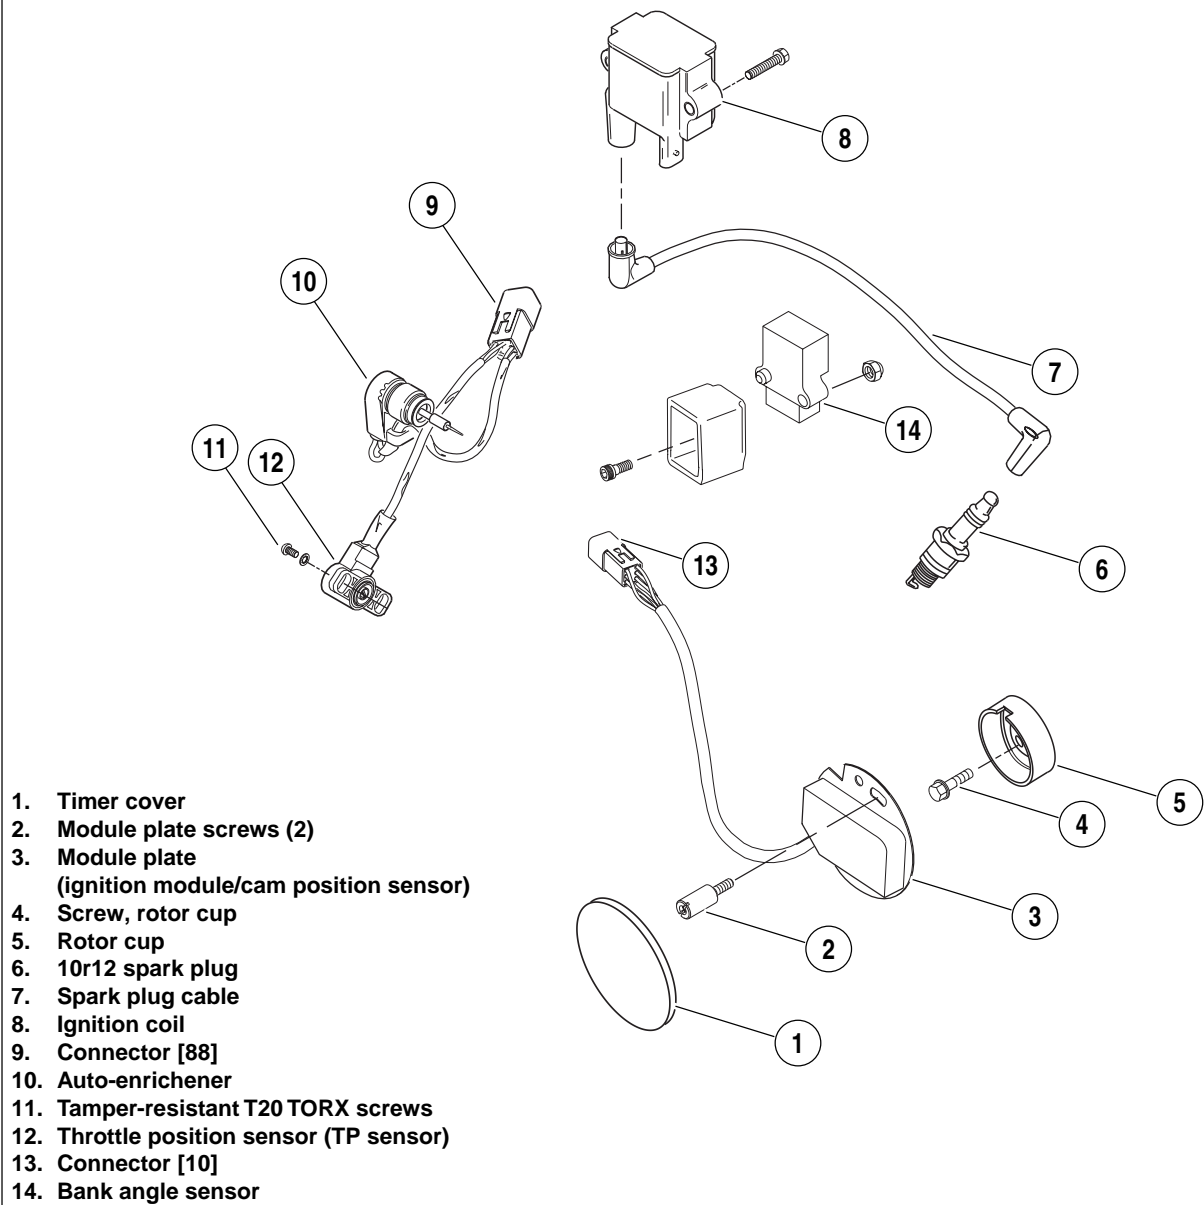

Figure 7-19. Ignition System Components
9. See Figure 7-19. Remove two module plate mounting screws (2). Carefully remove module plate (3). Remove screw (4) and rotor cup (5).